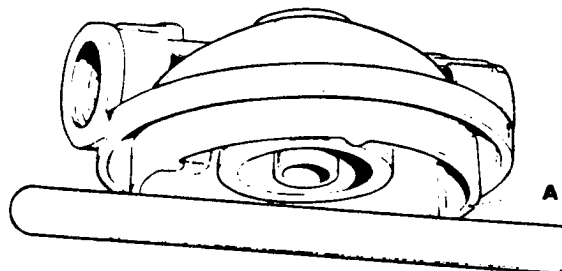
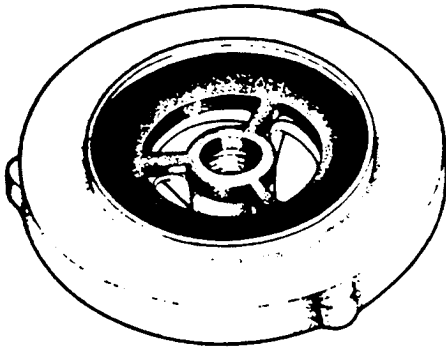

Fig.1 Outer Lip Proud of Inner Sealing Face.
Fig.3. Modified 'Top Cap'
- (i) Para (vi) and Fig.3 do not apply.
It has been established that on a small number of 'Vokes' Full-Flow Oil Filters it is possible for the oil to pass across the filter head without passing through the filter element. This condition is only possible when the outer lip of the filter head (see A Fig.1) stands proud of the inner sealing face.
Therefore when the bowl of the filter is removed to change the filter element and seals, on the 5,000 miles service schedule, Retailers should check the filter head with the aid of a straight edge as illustrated in Figures 1 and 2.
If the outer lip is found to stand proud of the inner sealing face (see Fig.1), a modified 'Top Cap' (see Fig.3) should be fitted and the original discarded.